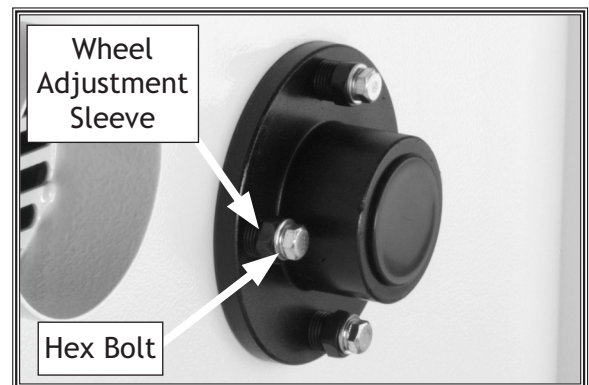

Figure 57. Wheel adjustment hub.
2. Loosen the four hex bolts on the lower wheel adjustment hub (Figure 57).